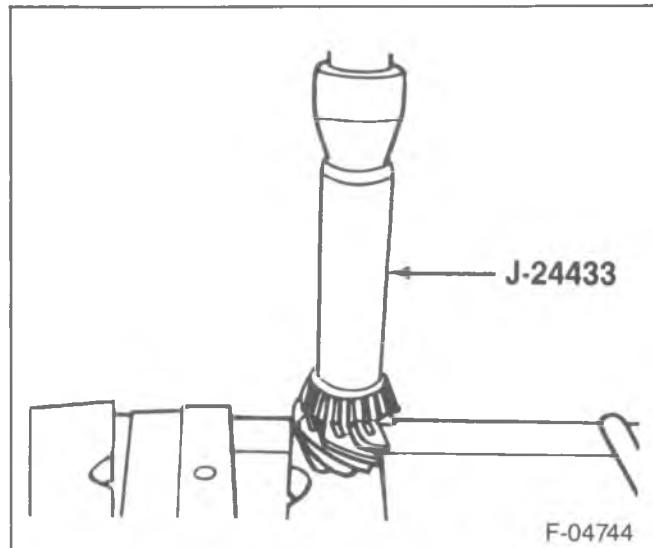

Figure 73—Installing the Inner Pinion Bearing
1. Pinion rear bearing (13) onto the pinion.
- Press the bearing onto the pinion using J-24433 (figure 73).
2. Outer pinion bearing cup (6) using J-8608 and J-8092.
3. Inner pinion bearing cup (13) using J-24432 and J-8092.
4. A new collapsible spacer (12) to the pinion.
5. Pinion (14) into the pinion gage (10).
6. Pinion outer bearing (6) onto the pinion.
7. Pinion oil seal (5) using J-24434 and J-8092.
8. Pinion flange oil deflector (4) and pinion flange (3) to the pinion splines.
9. Washer (2) and a new pinion nut (1).